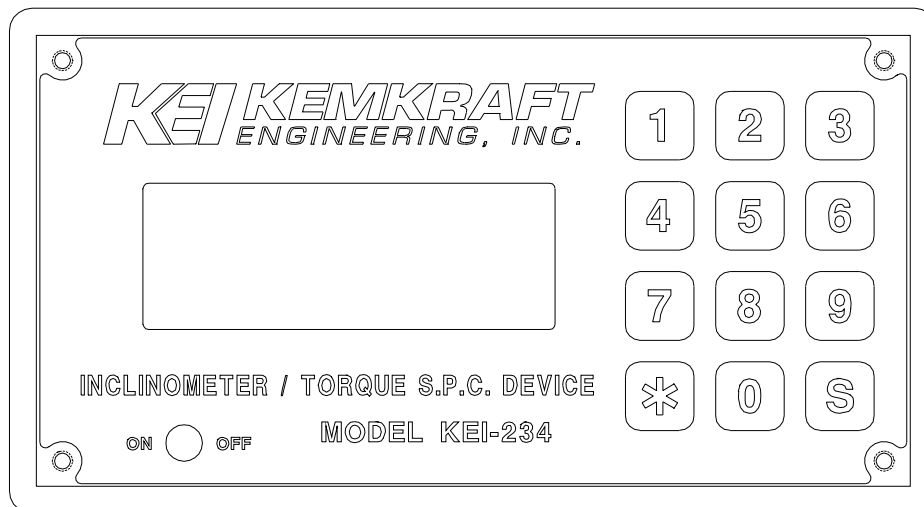

Fig. 1
2. Review figure 1 below for the KEI-234 Steering Wheel Torque/Inclinometer Tester. Make sure the Rollers on both sides of the steering wheel are firmly seated into place. Clamp the unit into place by tightening the thumbscrew on top of the tool. (do not overtighten)
Certain system parameters must be modified when changing to a new vehicle or adjustment is required. The Steering Wheel radius from *center of wheel* to the *center of the driving knob* must be changed when switching to a new vehicle. (See figure 1) The clock should be checked for accuracy and reset for daylight savings time.